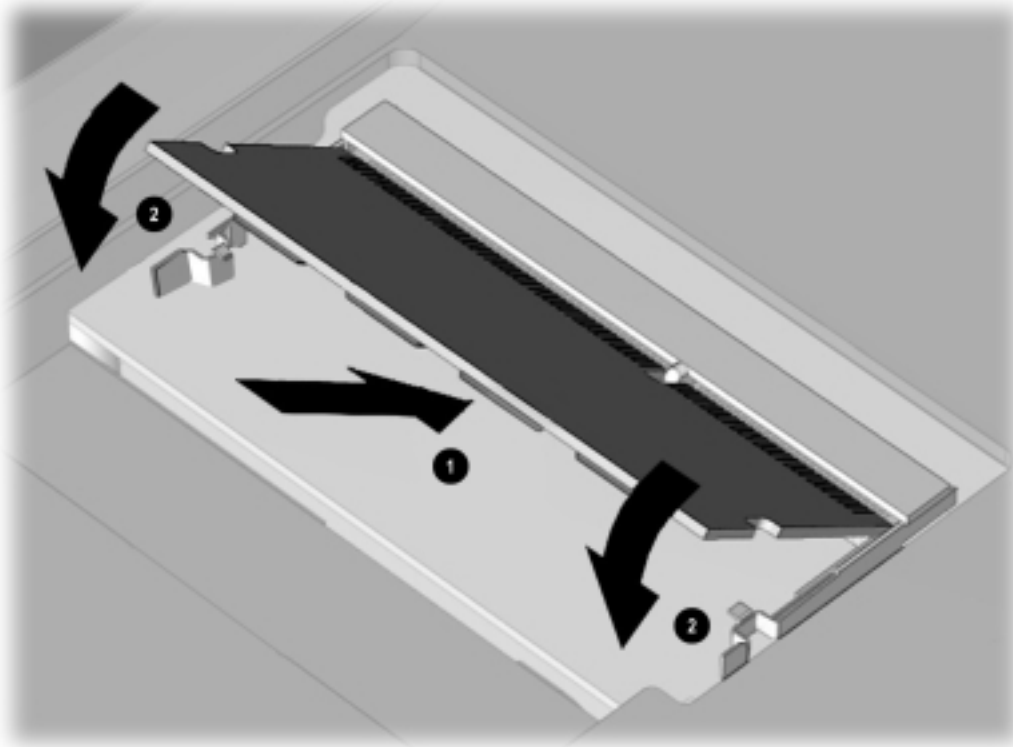

Figure 5-17. Installing the Memory Board
1. To add a memory board, insert the memory expansion board into the empty memory expansion slot at a 45-degree angle ❶. Then slide it gently into place until it is seated while tilted (Figure 5-17).